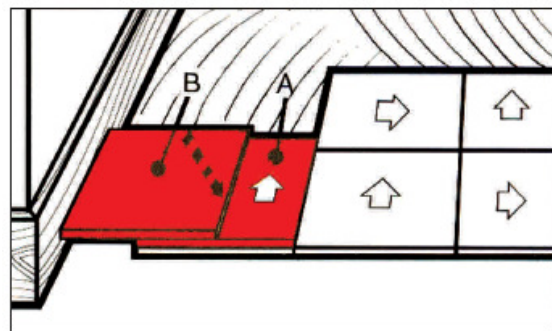

Fig 8.
2.11 Place another tile (B) right against the wall and on top of tile (A). Refer to Fig 8.